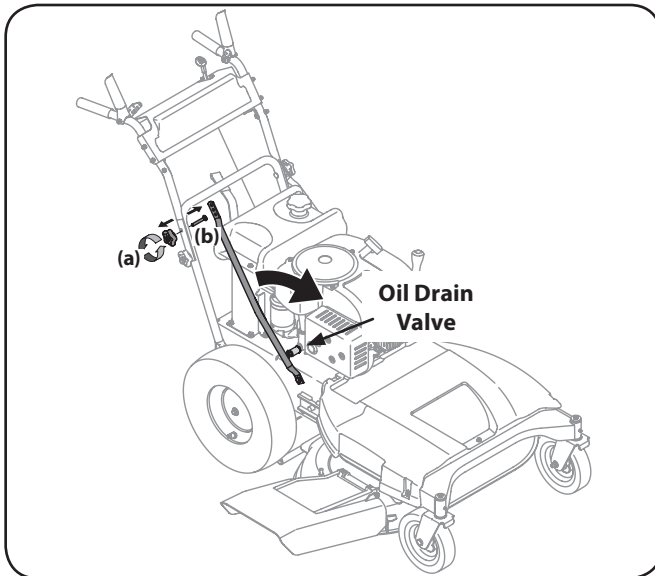

Figure 6-1
2. Remove the upper star knob (a) and carriage screw (b) on the right side of the handle. See Figure 6-1.
3. Pivot the support tube forward to allow room to connect the oil drain hose to the oil drain valve. See Figure 6-1.